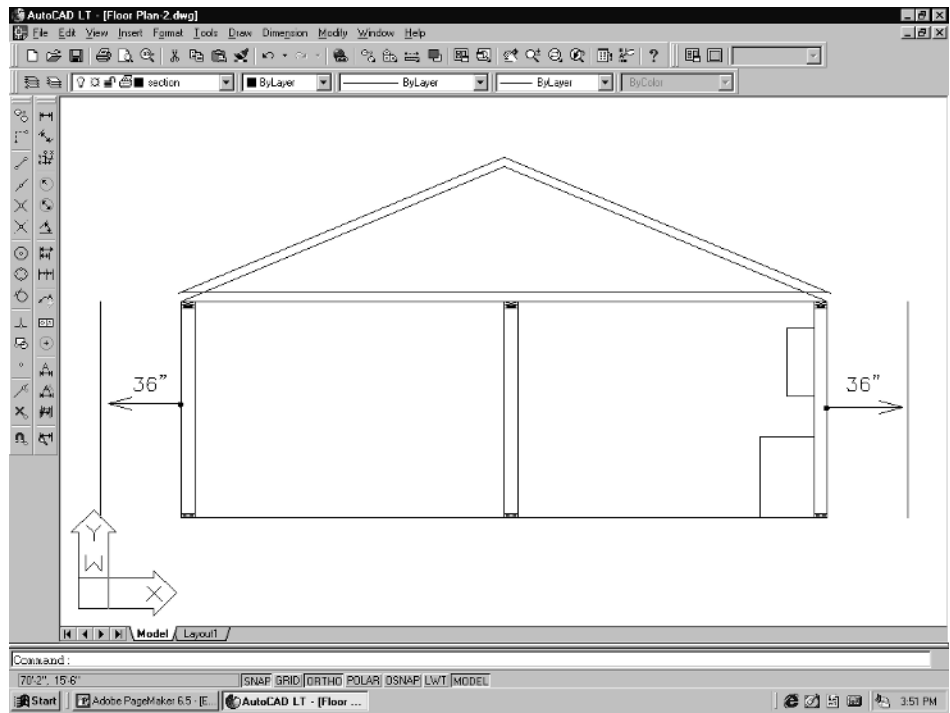

Figure 3-49
2. Next, offset the left and the right exterior wall lines **36"** to the outside. This will be used to form the eave overhang for the truss. Also, select the **Fillet** command from the Modify pull-down menu to join the roof lines together. Your drawing should resemble Figure 3-49.